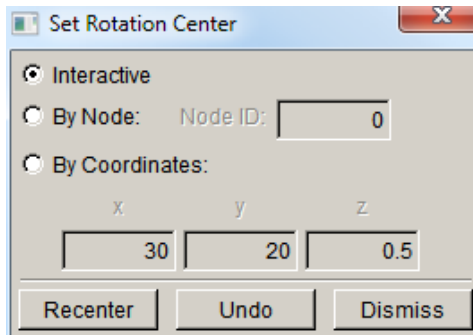
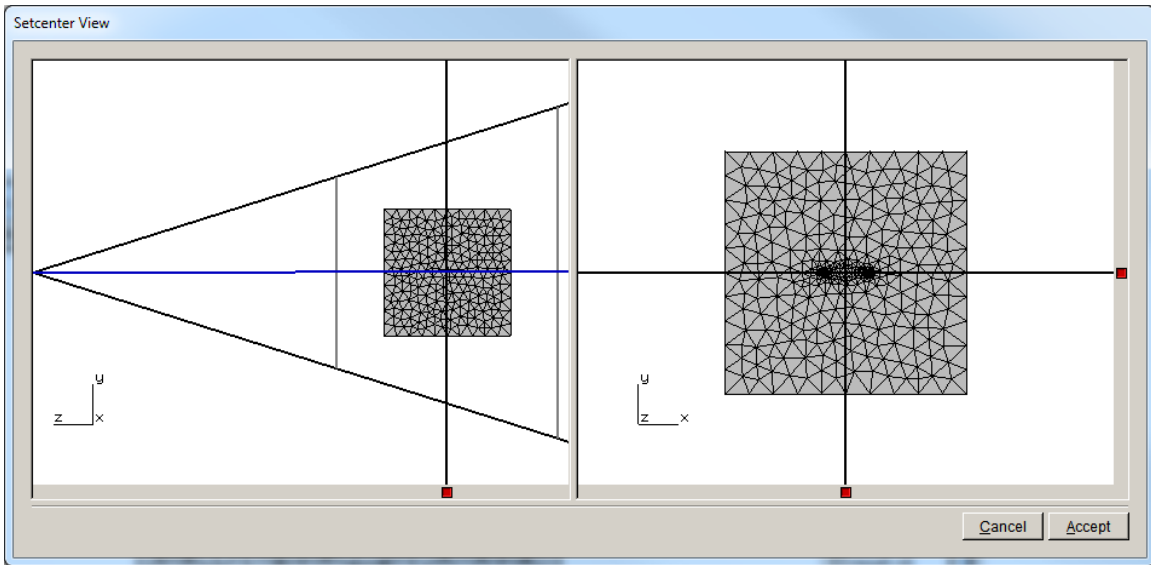

Figure 2.1.3 Set Rotation Center dialog.
Figure 2.1.4 Setcenter View dialog.
**Recenter:** This button displays the Set Rotation Center dialog, Fig 2.1.3. One can specify the center of rotation interactively, using the dialog in Fig 2.1.4. A node id or Cartesian coordinates can be specified also. In the **Setcenter View** dialog, Fig 2.1.4. The center of rotation can be set by dragging the red boxes left or right and up or down. The new center of rotation is the intersection of the three lines that have the red-box-handles.